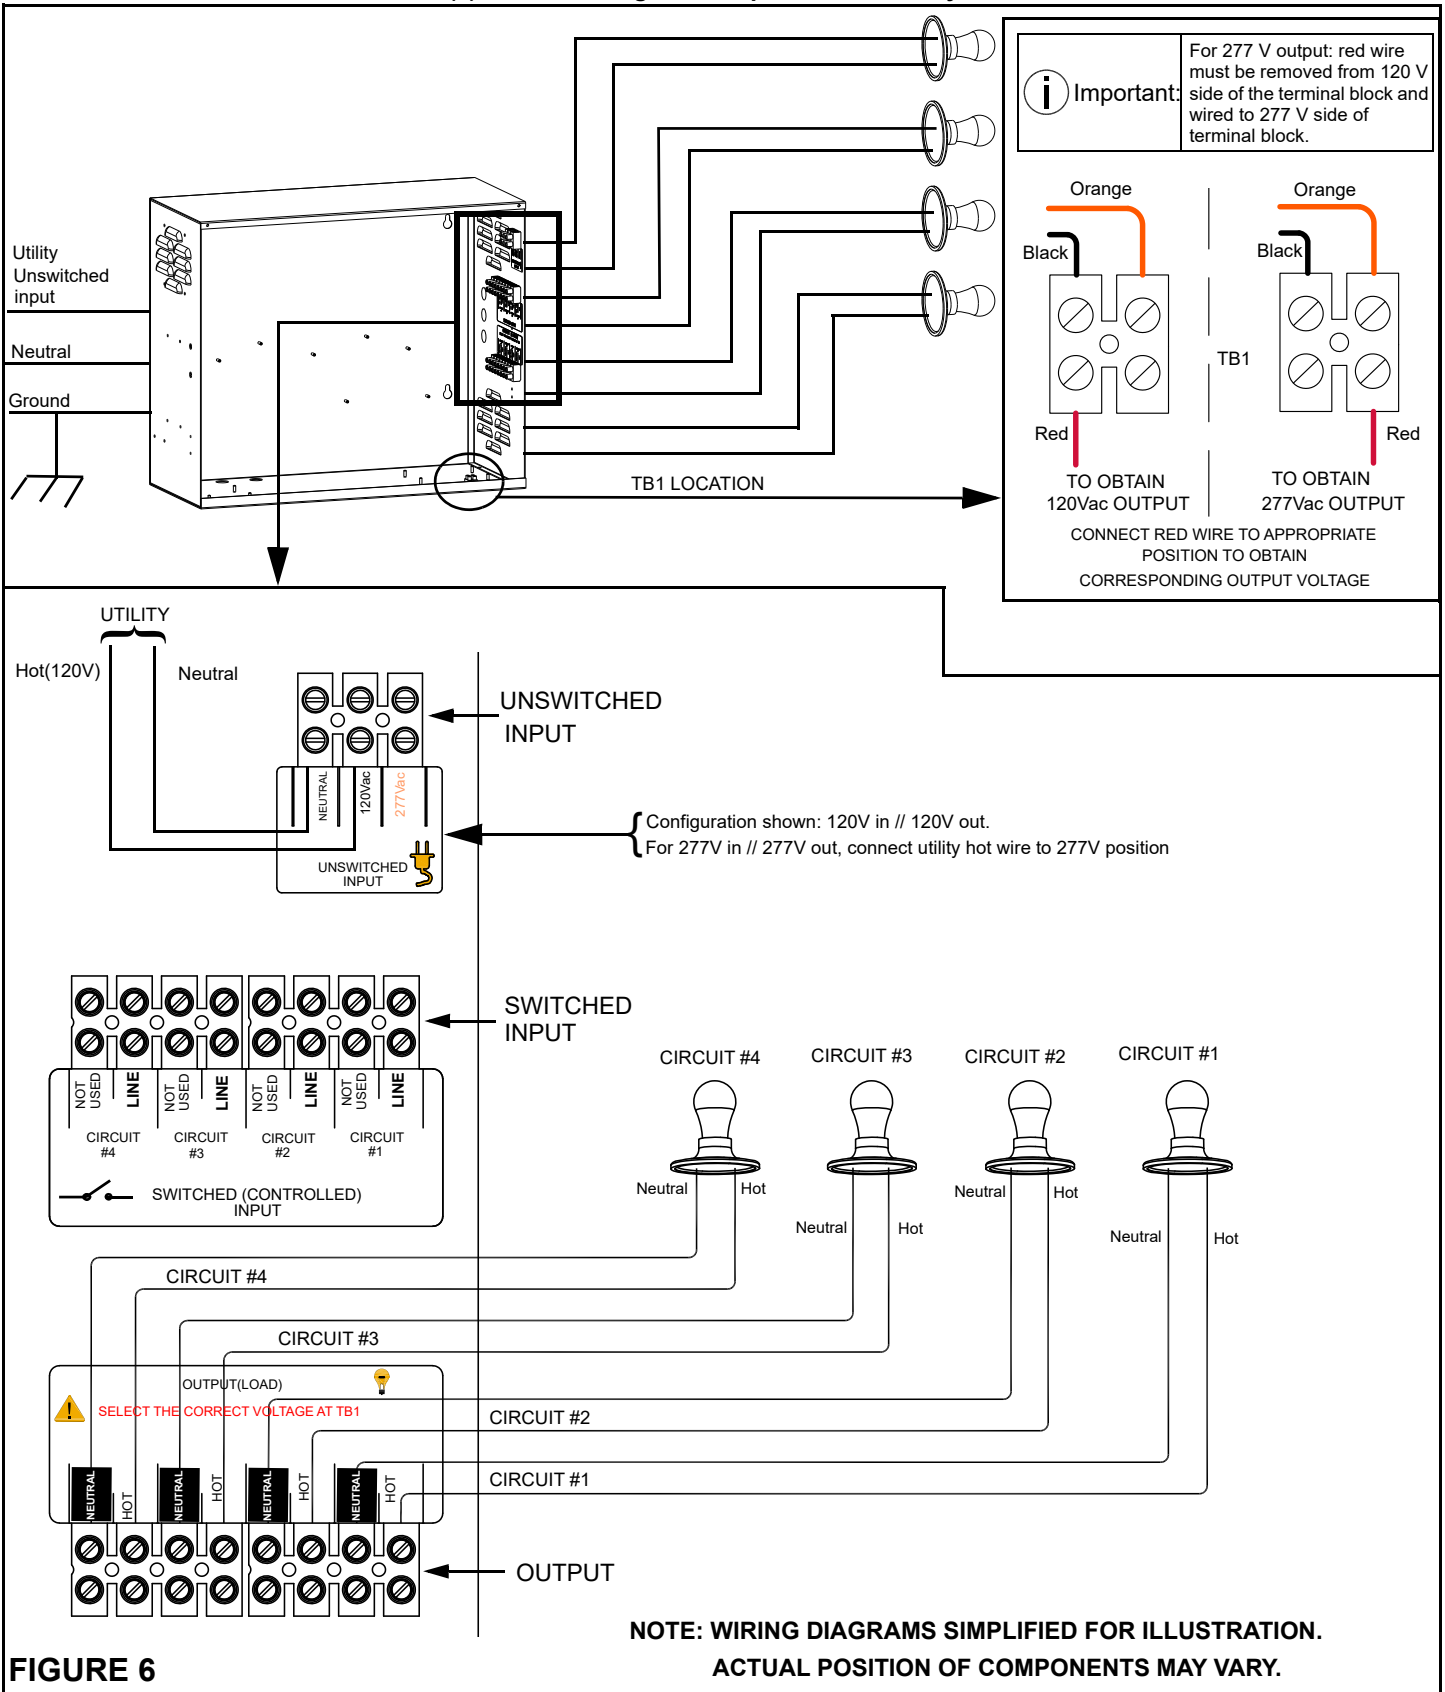

FIGURE 6
- b. **Normally-Off Operation** (Refer to Figure 6 for wiring details) - Fixtures illuminated only upon loss of utility AC power.